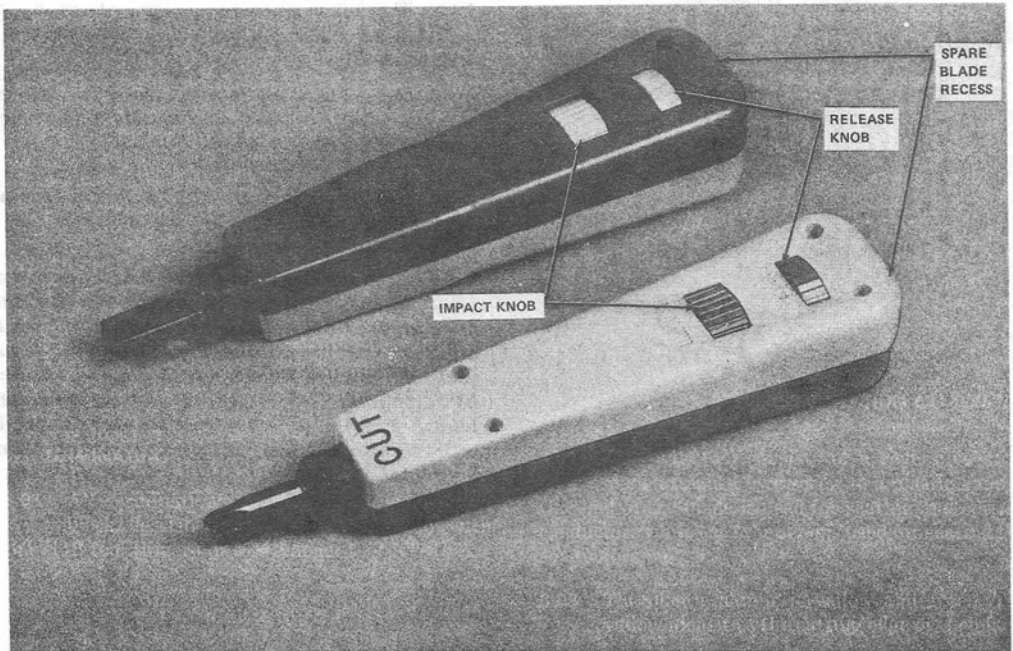

Fig. 9— Φ D Impact Tool
- (1) Loosen the screw, then pull the blade out.
- (2) Rotate the blade 180 degrees, push the blade back into the handle, and tighten the screw.
3.05 The Φ D impact tool AT-8762 (Fig. 9), which can be used interchangeably with the present 714B tool, employs a spring impact mechanism in the handle to activate the blade.